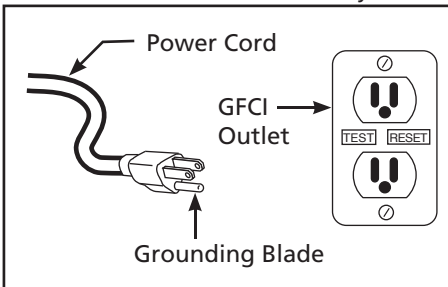

Figure 5: Grounding outlet and power cord
1. It is required that this unit be plugged into a Ground Fault Circuit Interrupter (GFCI) as shown in Figure 5. Consult a local electrician for installation and availability.